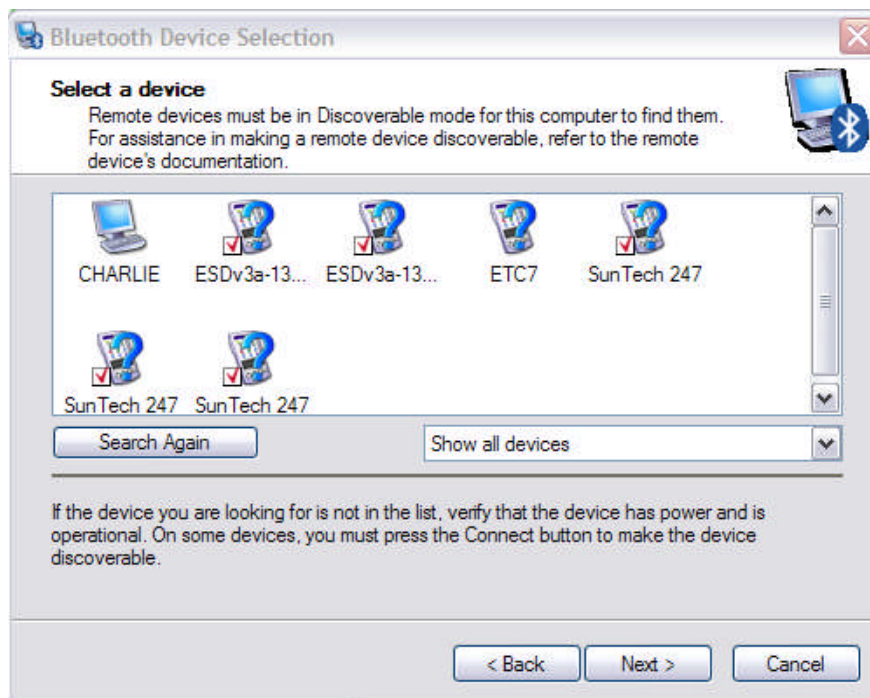

Figure 6: Bluetooth setup wizard screen
- iii. Select the device you want (in this case ETC7, Figure 6) and click Next.
- vi. If this is the first time, the device will require pairing. Right-click the device icon and a “Bluetooth PIN code request” window appears. Enter “1234” on the PIN code line and click OK (**Figure 6**) .